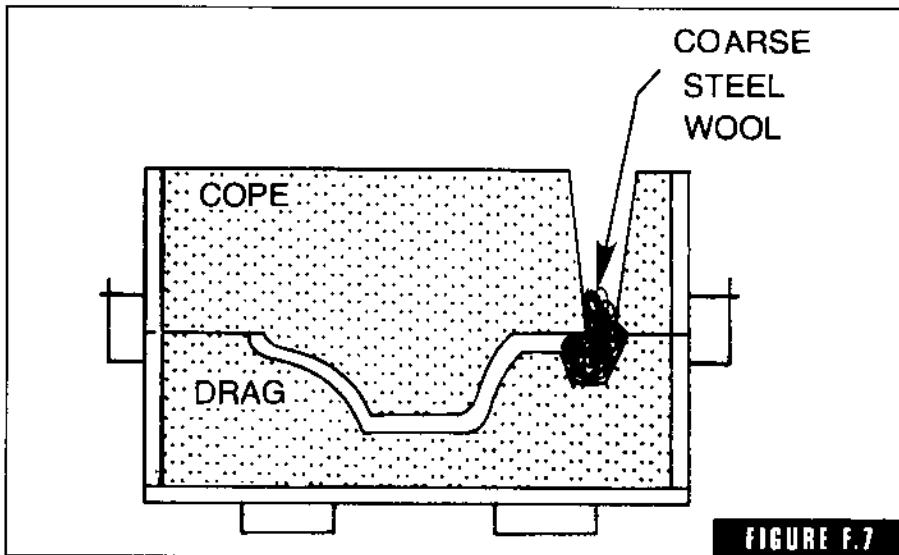

FIGURE F.7
**filters** A pad of coarse steel wool placed at the bottom of the sprue when casting magnesium to eliminate vortex action of the metal stream and assist in filtering out oxide skins (Fig. F-7). Slot sprues are used in casting magnesium to prevent vortex.